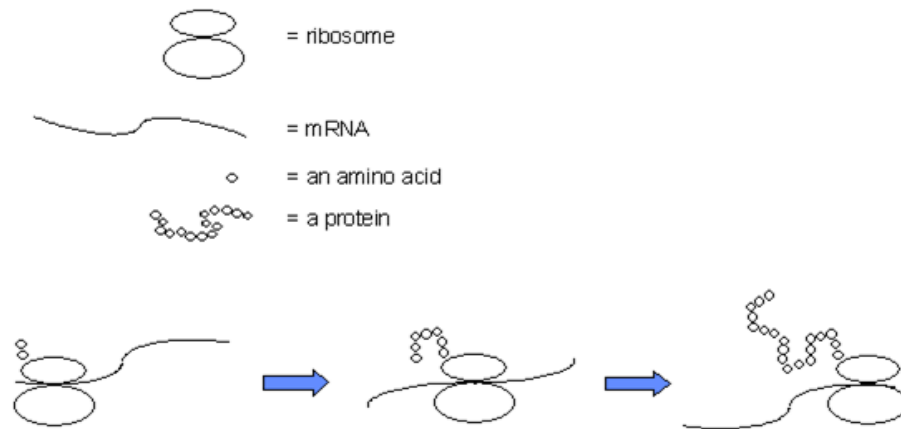

Figure 7 – Translation
The ribosome detaches each amino acid from its tRNA and links the amino acids together, forming a *polypeptide*. The bond between the amino group of one amino acid and the carboxy group of another amino acid is called a *peptide bond*. Just as in DNA synthesis, protein synthesis has directionality: proteins are synthesized from the amino (N) to carboxy (C) terminus. The chemical properties of the amino acids in the polypeptide cause it to fold into a functional *protein*. Figure 7 is a diagram of translation.